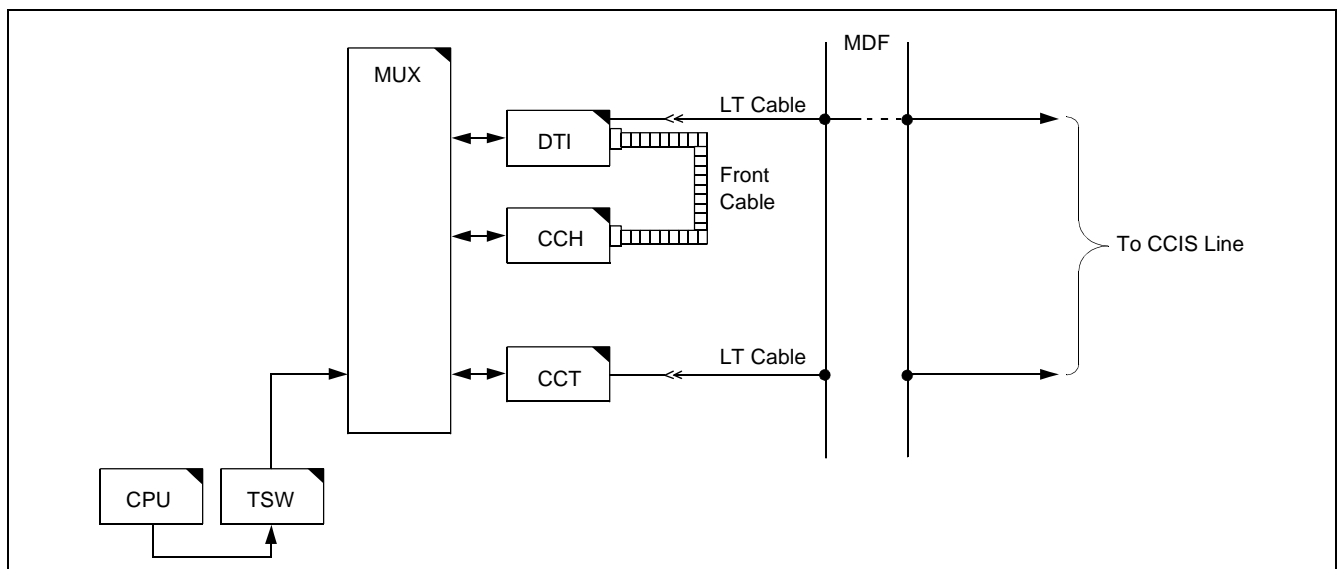

Figure 5-25 Controlling CCIS Line
- (1) Check alarm lamps on the CCH or CCT circuit card.
- (2) Refer to Figure 5-25, and check the cable connection.
A break in signal links is detected, then restored to establish signal links. The call processing information is converted into No. 7 signal format for channel 1 (any channel) of the DTI before being transmitted to a distant office. Figure 5-25 shows the CCIS line control route.